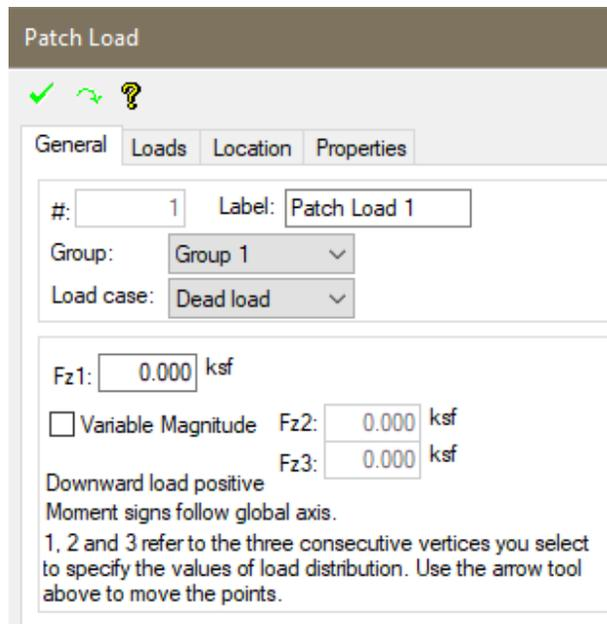

FIGURE 5.6-6 PATCH LOAD DIALOG BOX
- Edit the input fields on each tab as required (**Fig.5.6-6**).